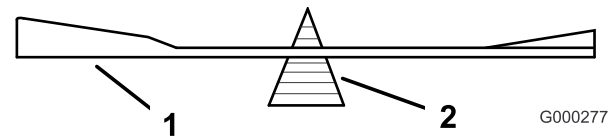

Figure 58
2. Check the balance of the blade by putting it on a blade balancer (Figure 58). If the blade stays in a horizontal position, the blade is balanced and can be used. If the blade is not balanced, file some metal off the end of the sail area only (Figure 58). Repeat this procedure until the blade is balanced.